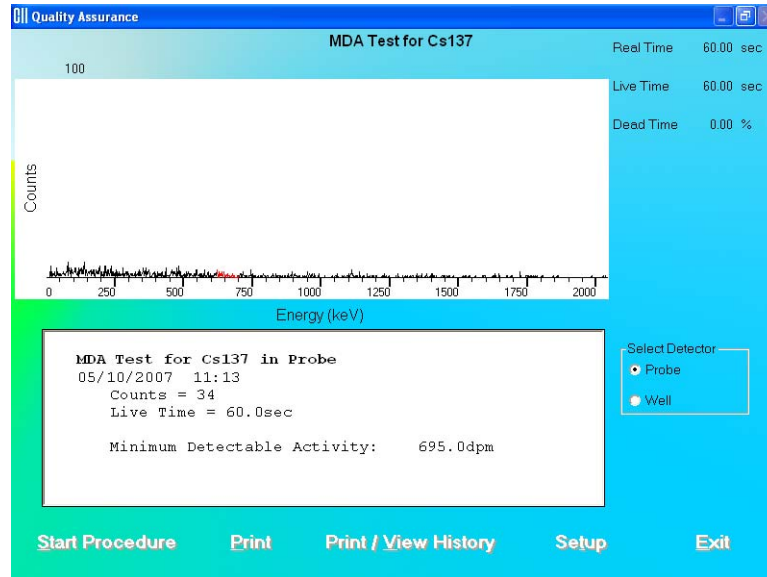

Figure 5-24
10. When the measurement is completed, the screen appears as shown in Figure 5-24 displaying the Minimum Detectable Activity (MDA) measured in the selected isotope's ROI.